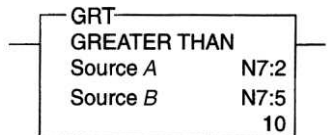

Figure 10-18 Instruction for question 30.
30. What value(s) stored in N7:2 of Figure 10-18 would make this instruction true? 30. _____